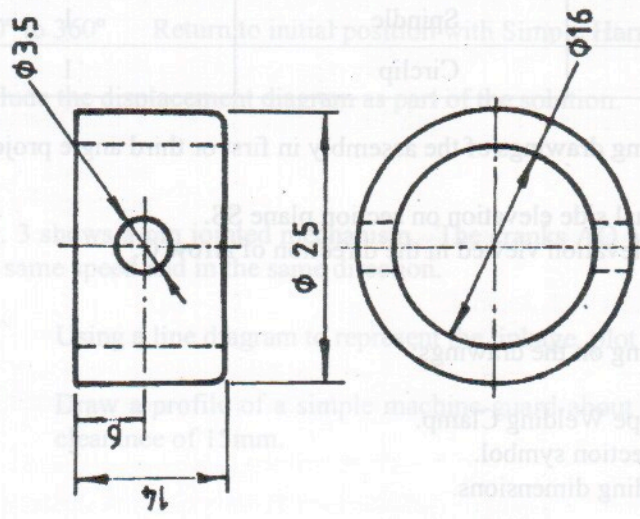

FIG. 6.2
- (b) Which of the following would be the most suitable snap resolution for the drawing in Fig. 6.2: